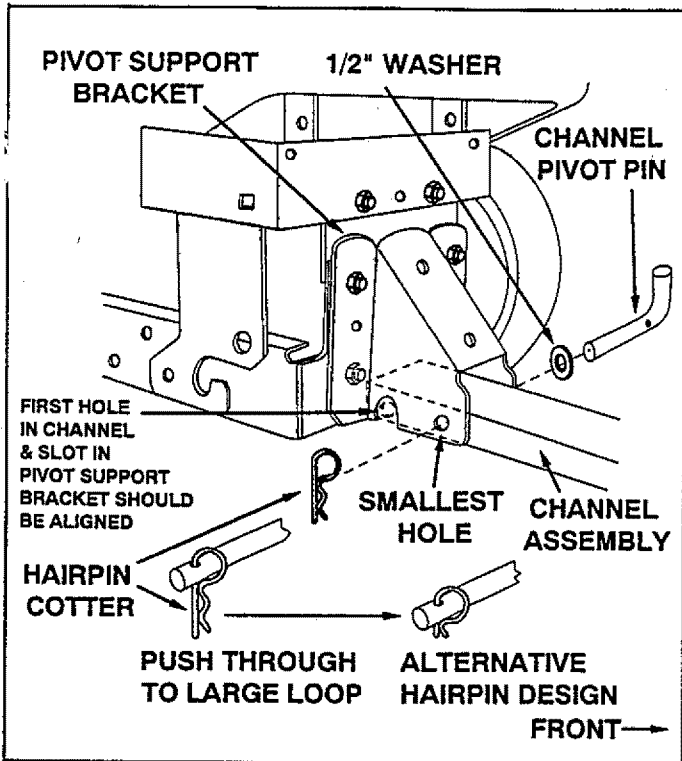
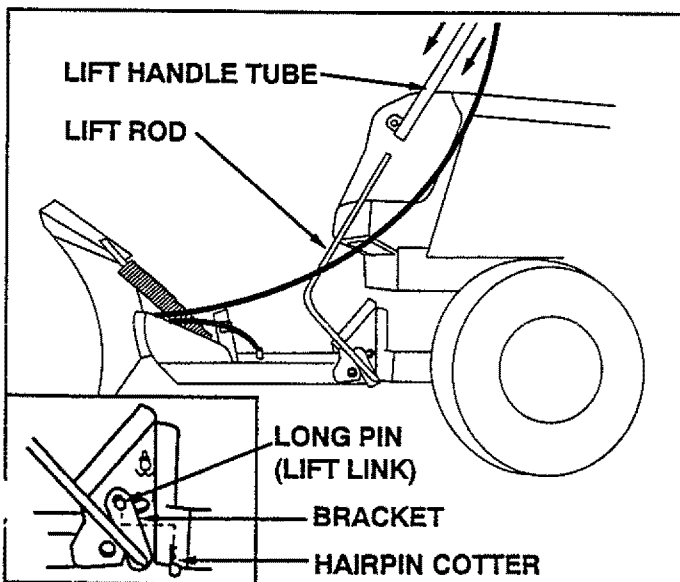
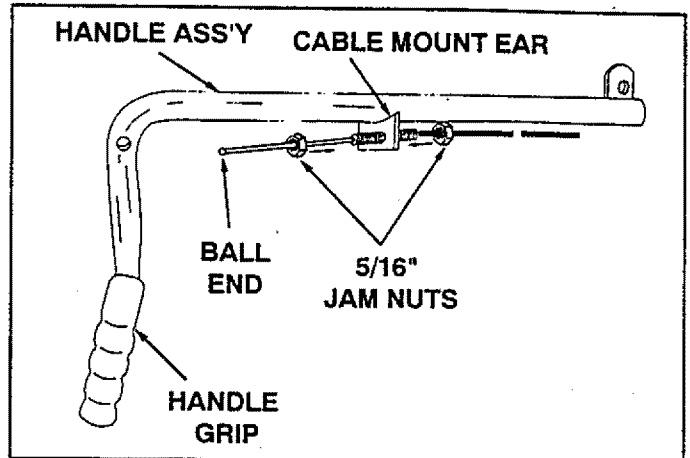

FIGURE 25 (Right Hand Side View)
FIGURE 26 (Left Hand Side View)
FIGURE 27 (Right Hand Side View)
- Attach the channel assembly to the tractor by placing the end of the channel assembly up inside the pivot support bracket on the tractor. Align the second hole from the end in the channel assembly with the front hole in the pivot support bracket and insert the channel pivot pin through from the left side. Secure with a hairpin cotter pushed all the way through to the loop end. See figure 25.
- To assemble lift handle to blade, assure that holes in end of channel assembly are aligned with clearance slots in sides of pivot support bracket as shown in figure 25. From the left side insert the bracket end of the lift rod through the holes in the channel assembly. Next, align the hole in the lift rod bracket with the lift link (pre-assembled to the pivot support bracket). Secure with a hairpin cotter inserted up through the cross hole in the lift link pin all the way to the loop end of the hair pin cotter. See figure 26.
- Using the furnished grease packet, apply a light coating of grease to the straight upper portion of the lift rod. Slide lift handle tube onto the lift rod. See figure 26.
- To attach loose end of cable to handle assembly, pass cable around outside and underneath handle assembly as shown in figure 26. Mount one 5/16 inch jam nut approximately 3/4 inch onto threaded end of control cable. Insert threaded end of cable up through cable mount ear on handle assembly and secure with a second 5/16 inch jam nut. **Tighten.** See figure 27.